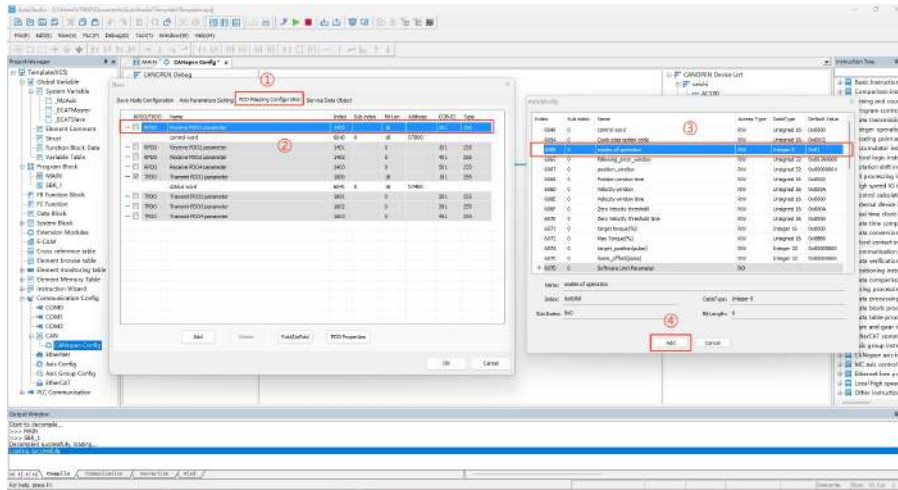
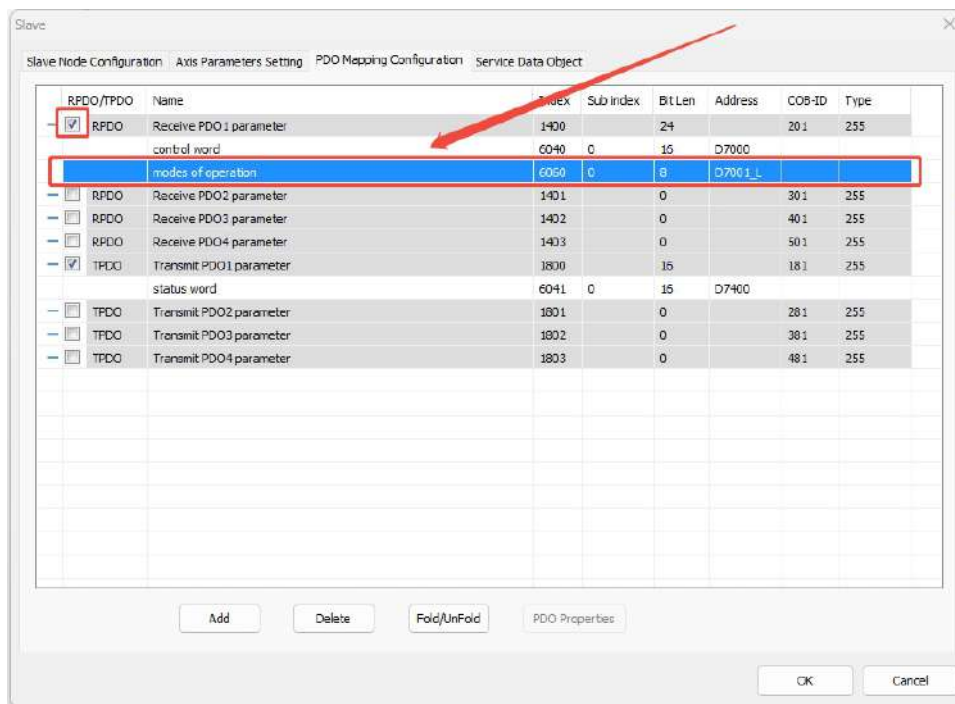

Figure 3-16 Configure PDO Mapping
Figure 3-17 Check the PDO
Step 8: With the slave node ID matching the target device, click the PDO Mapping and Configuration tab to open PDO settings. To configure RPDO2 mapped to object dictionary index 6060 (Control Mode), select PDO2 under RDO, click Add to open the object dictionary index list, find index 6060, select it, and click Add. This adds the PDO mapping at the appropriate location, as shown in Figure 3-16. To enable this PDO, check the box before it, as shown in Figure 3-17.